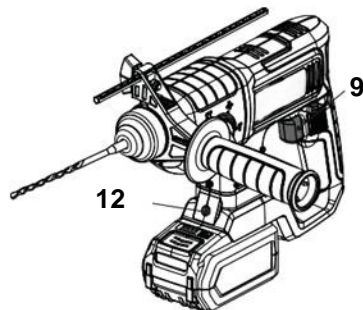

Fig. 14
The LED work light (12) will illuminate when the trigger of on/off switch (9) is depressed slightly, and will automatically turn off a short while after the trigger of on/off switch (9) is released (Fig. 14). This provides additional light on the surface of the workpiece for operation in lower light situations.